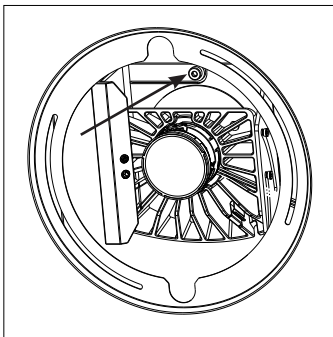

fig. 18 (Lock)
- a. Unlock the emitter chassis by loosening the lock screw with a 4 mm hex tool (see fig 18).